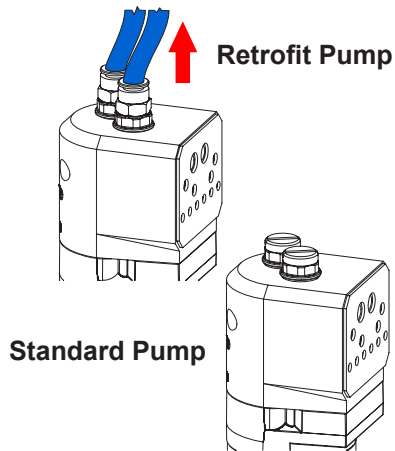

Figure 14 Removing the Purge Air Tubing
1. See Figure 14. Perform a color change to remove old powder from the pump, then relieve the system air pressure and disconnect the purge air tubing.